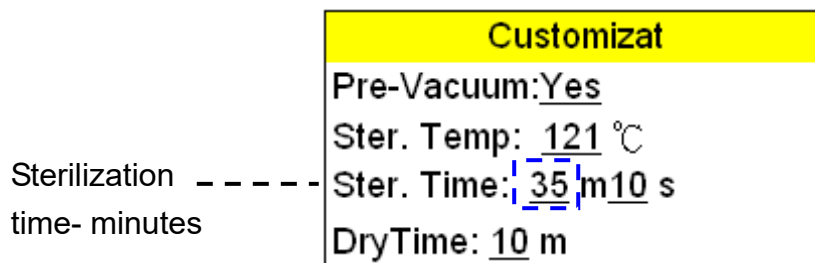

Figure 74
- Press  button to store sterilization time parameter as shown in Figure 74.